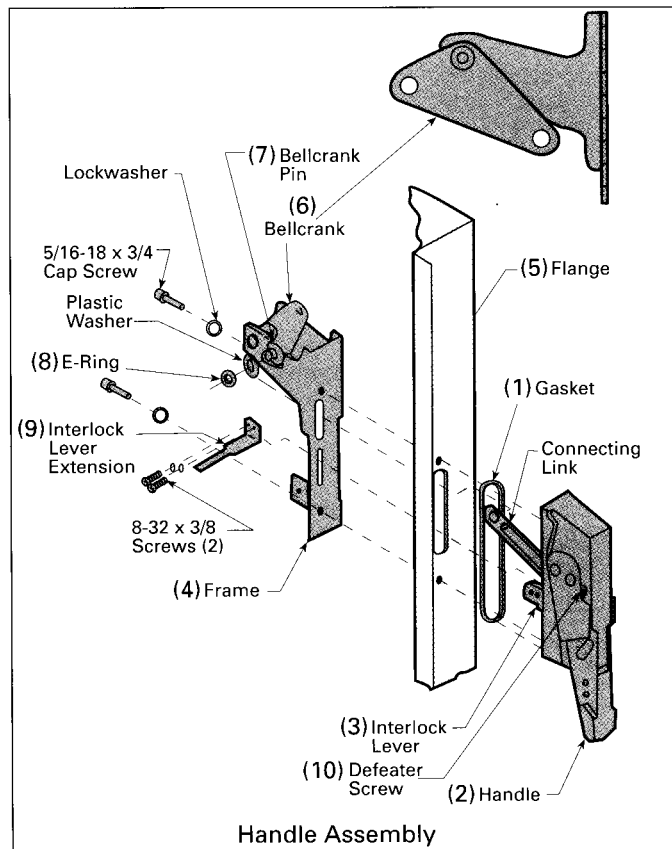

Figure 3
C. Mount the frame (4) and handle assembly to the enclosure flange (5) using two 5/16-18 x 3/4" button head cap screws and lockwashers. Tighten cap screws from within enclosure (Figure 3).
D. Place the plastic washer and connecting link onto the bellcrank pin (7). Secure the connection with the E-ring retainer supplied (8) (Figure 3).
E. Attach the interlock level extension (9) to the interlock level using two #8-32 x 3/8" screws and #8 lockwashers. Screws mount through the threaded lever extension into the lever. Tighten to 25 in-lbs. (Figure 3).
When the enclosure door is open, the operating handle cannot be moved from the OFF to ON position without deliberately defeating the interlock mechanism. In the OFF position, the interlock can be defeated by pushing the interlock level extension downward while moving the handle to the ON position. With the enclosure door open and the handle in the ON position, the interlock can be defeated by turning the defeater screw (10) (Figure 3) on the operating handle. When the enclosure door is closed, the door latch mechanism automatically defeats the interlock.